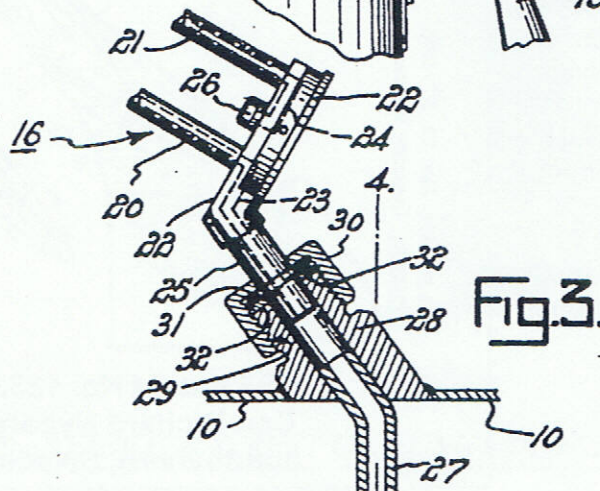

Fig. 3.
The invention also provides for a curved burner tube, shown as Fig. 3 of the illustration, threaded to replace the straight burner.
- (d) In Fig. 3, a priming cup is hung beneath the burner.